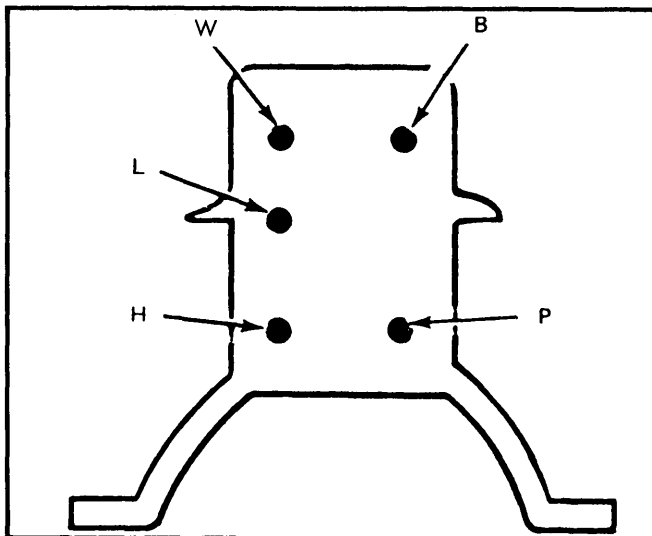

Fig. 17 Pin Type Switch Connector (Fairmont, Zephyr)
**All Models** – Check continuity between switch terminals as shown in Fig. 17 through 22. An ohmmeter must be used to test both systems. To detect marginal operation of the switch, move control knob while each reading is being taken. If switch does not indicate continuity as shown or poor continuity exists during movement, replace switch.